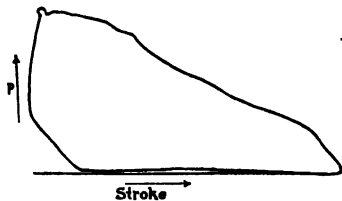

FIG. 187. — Pressure in cylinder of engine.
**217. Expanding steam.** If live steam from the boiler is allowed to push the piston through its entire stroke, and is then thrown away, that is, allowed to pass into the atmosphere or into a condenser, it is evident that much energy is wasted. To get more work out of the steam, the valve is closed after the piston has made about  $\frac{1}{4}$  or  $\frac{1}{3}$  of its stroke, and the steam is allowed to **expand** through the rest of the stroke. The pressure continues to drop after the "cut-off," as shown in figure 187, where the pressure  $P$  is represented vertically and the stroke horizontally.